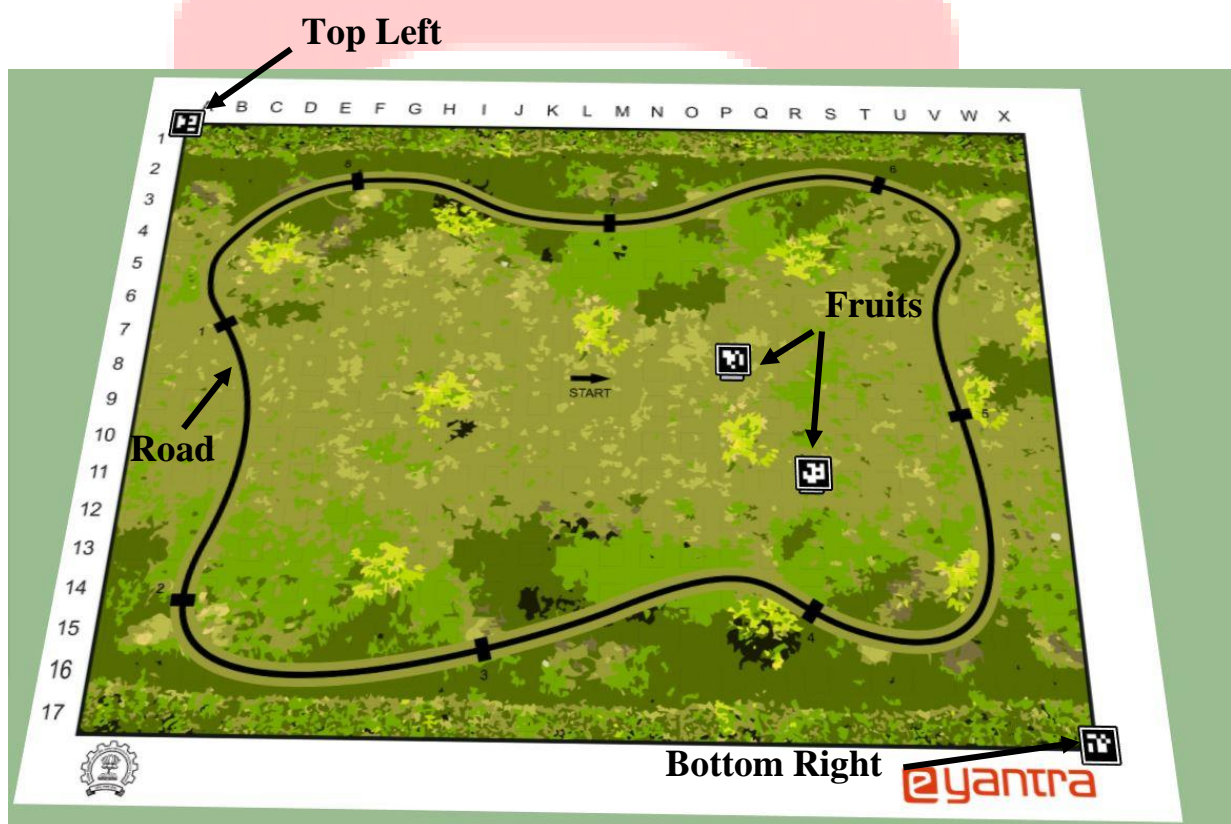

Figure 1: Arena with Areas Marked
- **Collection Stations:** Small thick segments in the Road represent Collection Stations. There are 8 Collection Stations numbered as shown in Figure 1.